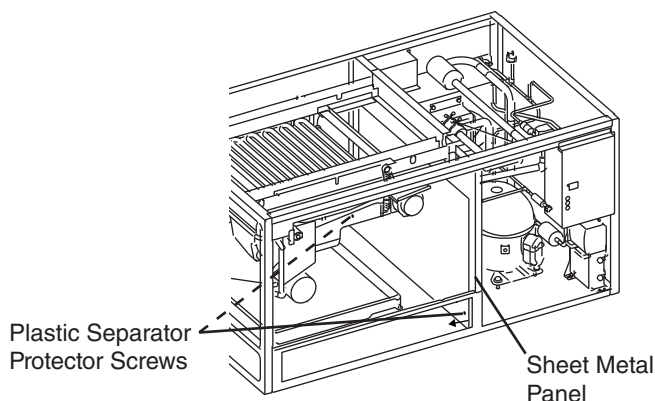

Fig. 6
- 15) Remove the 2 plastic separator protector screws, then pull the plastic separator protector out slightly. Slide the water guide provided in this kit, between the plastic separator protector and sheet metal panel. See Figs. 6 and 7. Replace the 2 plastic separator protector screws.